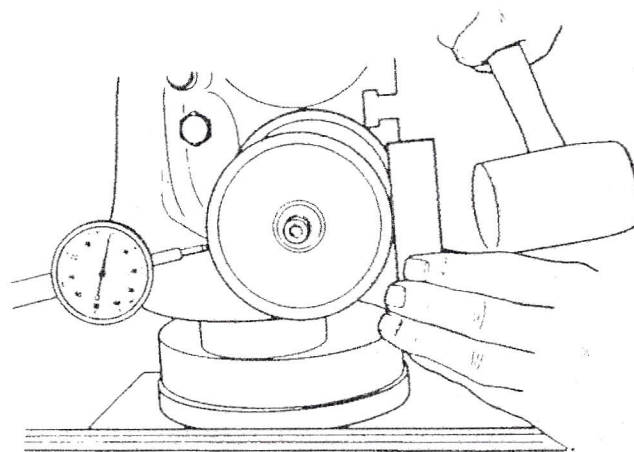

Fig. 8-13 Correcting the runout on the circumference of a diamond grinding wheel. (Courtesy of Cincinnati Milacron Co.)
- a. **Wheel Circumference.** Move the wheel on the adapter by gently tapping with a hammer on a wooden or plastic block until the runout is no more than 0.0005 in. (0.01 mm) (Fig. 8-13).